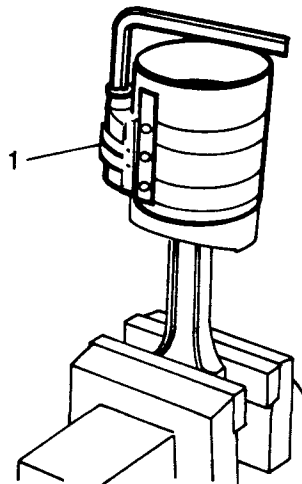

Fig B4.50
- (4) Refer to Fig B4.50. Compress the piston rings using a suitable ring compressor (1).